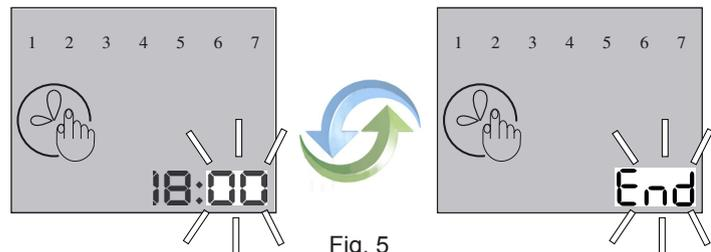

Fig. 5
1. The screen in Fig. 5 will appear. On this screen, the clock numbers refer to the time you wish the irrigation Window to end. 'End' flashes on the screen, alternating with the numbers.